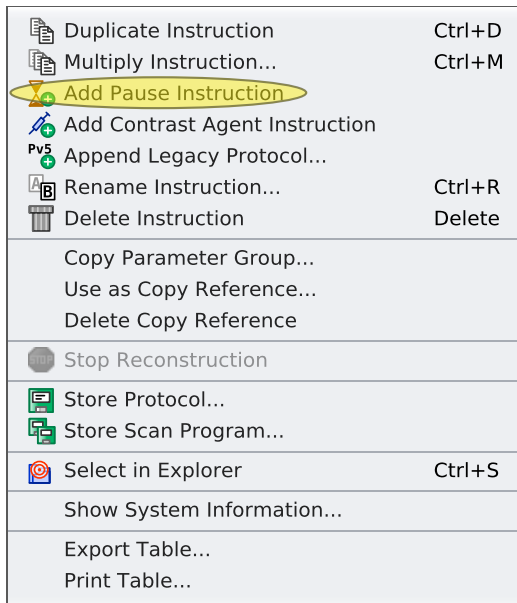

Figure 1.15: Context Menu Examination Card
2. Open the context menu (see [Figure 1.15 \[▶ 43\]](#)) and invoke **Add Pause Instruction**.